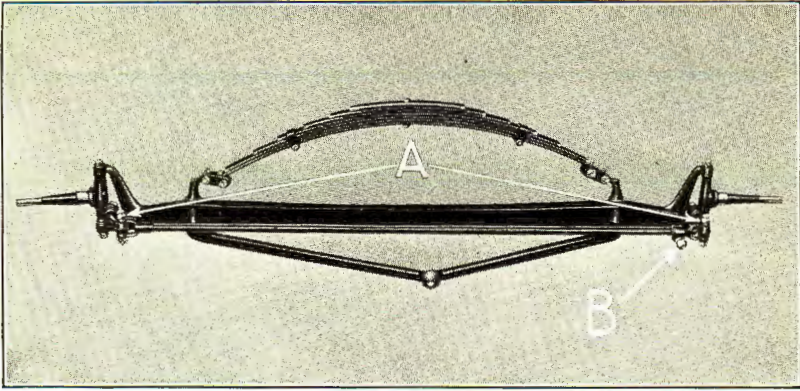

Fig. 373
- 692** Position spindle connecting rod over ends of spindle arms with the yoke ball towards right side of axle (See "B" Fig. 373), insert spindle connecting rod bolts, running them down into forked end of rod and yoke, run down nuts on ends of bolts (See "A" Fig. 373) drawing them down tightly and locking with cotter keys.